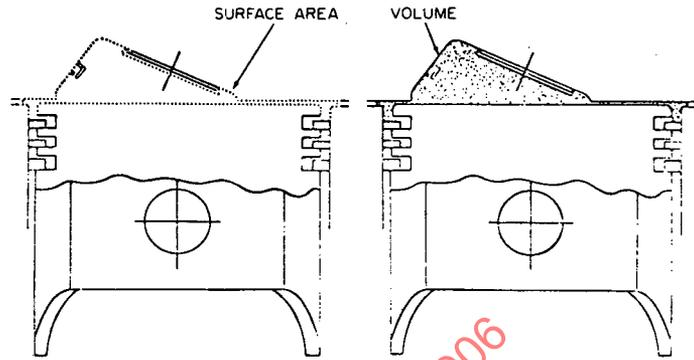
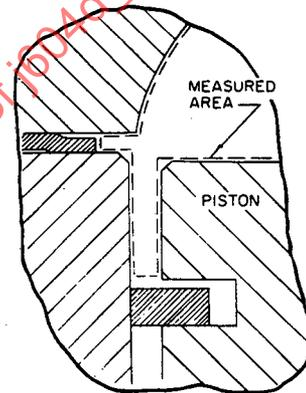

FIG. 1—TYPICAL COMBUSTION CHAMBER
FIG. 2—HEAD GASKET AND TOP RING LAND AREA
2.6 Combustion Chamber Surface-to-Volume Ratio1—Area of chamber divided by volume at top center. Fig. 1 illustrates the surface area and the volume of a typical combustion chamber. Figs. 2–4 and the following list define the chamber area in detail: